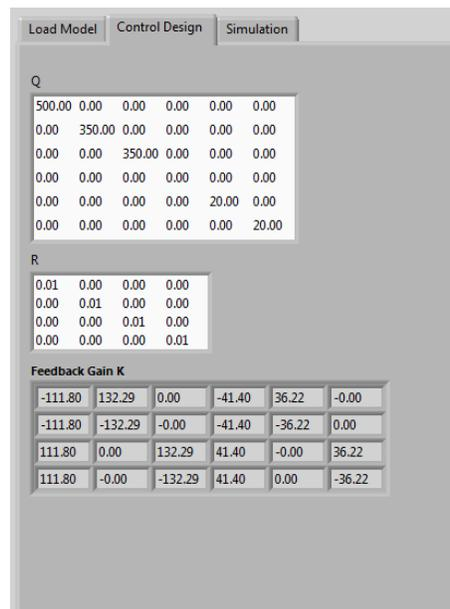

Figure 3.3: Control gain generated using LQR for 3 DOF Hover system
- Click on the *Control Design* tab to generate your control gain based on LQR. Sample gain generated is shown in Figure 3.3. You can change the  $Q$  and  $R$  weighting matrices to suit